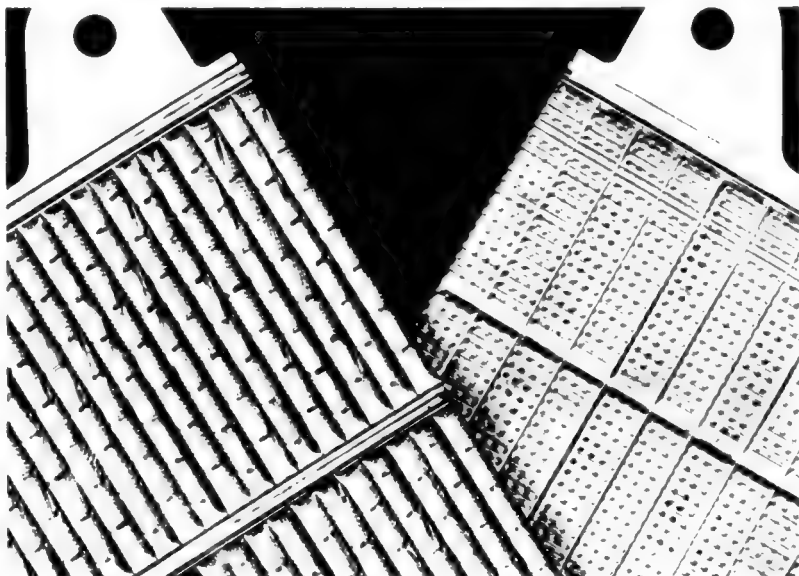

Figure 15. Detail photograph of the positive (left) and negative plates of the nickel-iron cell.
**NICKEL-IRON BATTERIES:** The nickel-iron cell bears a broad physical similarity to the lead-acid cell, but is quite different chemically. The positive plate is a nickleled-steel grid containing perforated nickleled-steel tubes into which the active material is inserted. The positive active material begins as nickel hydrate, but is changed by formation into a nickel oxide. The negative plate is a nickleled-steel grid containing perforated pockets of finely divided iron oxide. Figure 15 shows positive and negative plates of a nickel-iron cell.